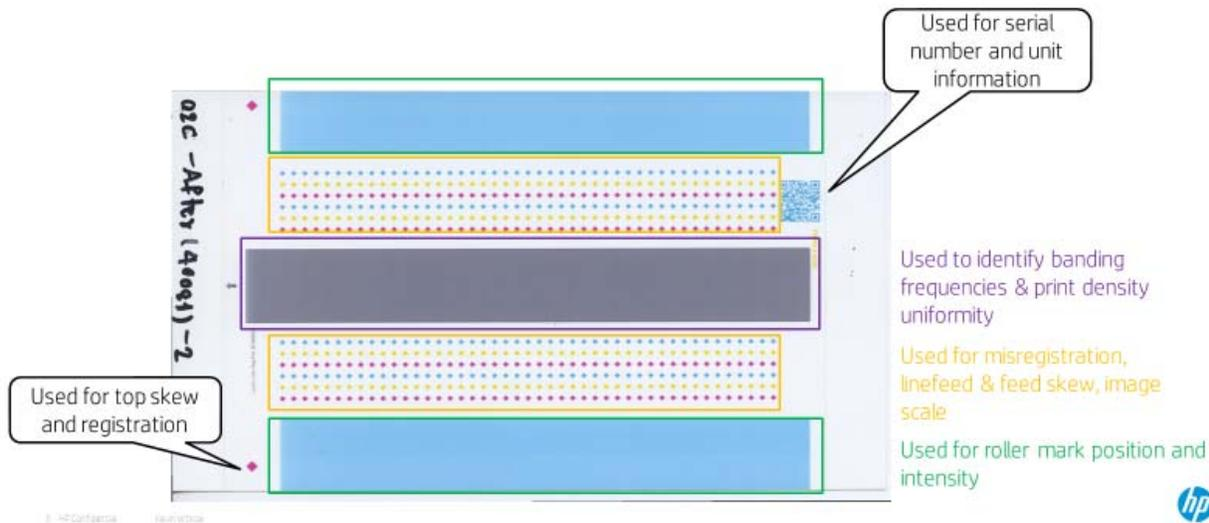

Figure 1: Sample Diagnostic Image. The Image can be modified depending of the PQ Requirements for the Project.
1. Development of a single target, to identify and quantify both old and new defects (Figure 1)